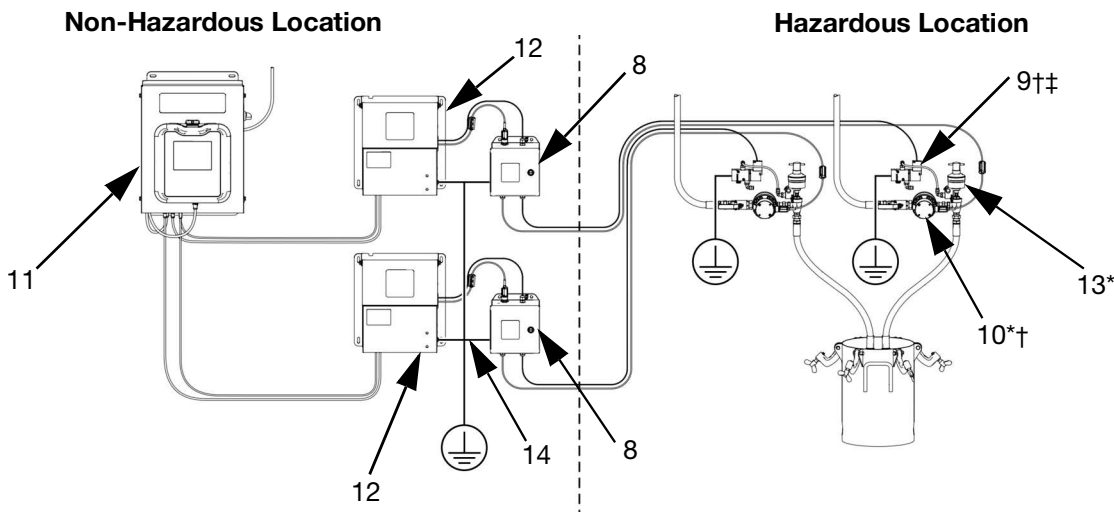
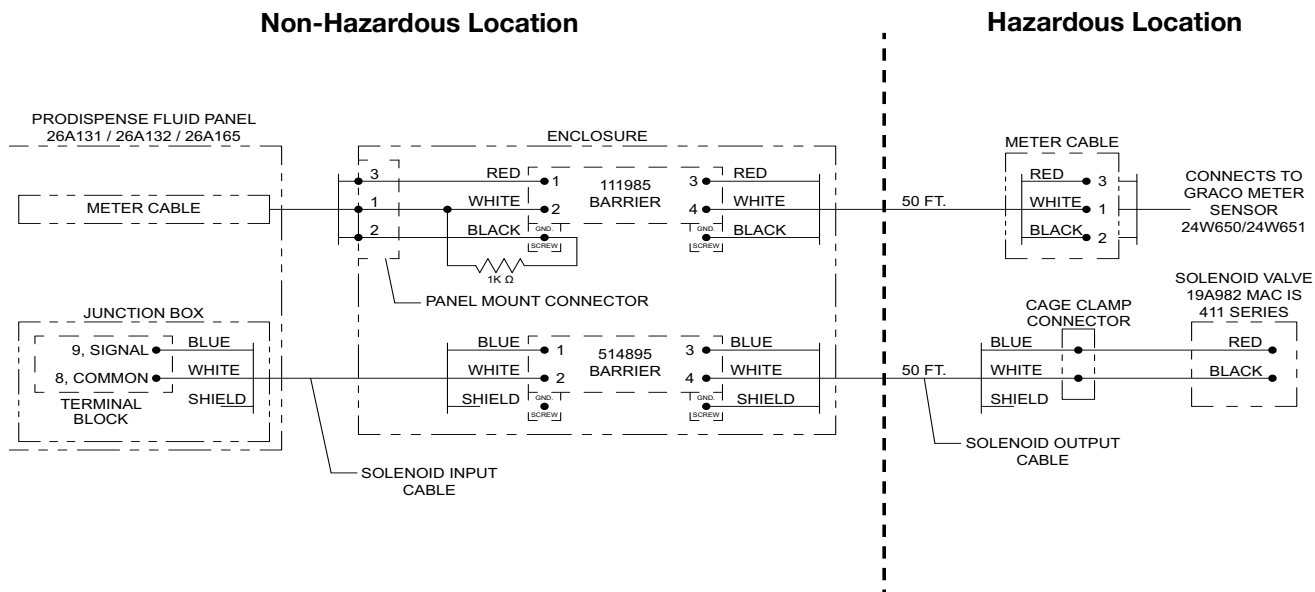

FIG. 1 Typical Installation with Hazardous Location Solenoid and Meter Barriers
FIG. 2 Barrier Enclosure Wiring Diagram
With the Barrier Enclosure Assemblies (8) installed, it is possible to move key components from the ProDispense Fluid Panel (12) in the non-hazardous location and to safely install them at the dispensing station in the hazardous location. These include the Fluid Flow Meter (10) and the Dispense Valve (13). See FIG. 1 and FIG. 2 on page 7.
Barrier Enclosures (8): Connect the other end of the factory-installed ground wire (14) to a true earth ground using the screw clamp provided. See FIG. 1 on page 7.